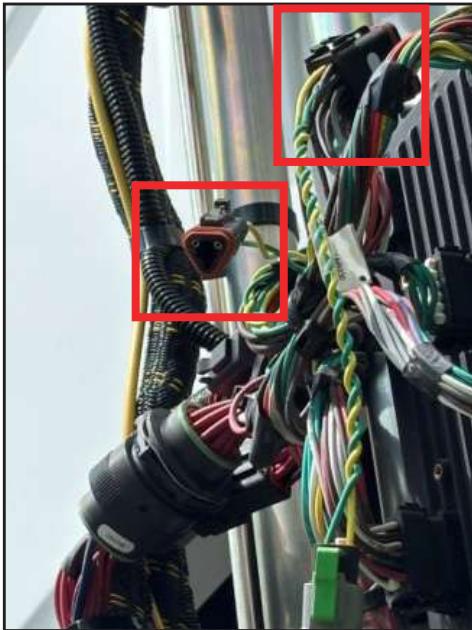

Figure 4
9. Insert the two wires from PN 1449230 into the MCB connector (Figure 4).
10. Insert the wires from PN 1673284 into the Deutsch 3-socket plug (Figure 4).
11. Reinsert MCB in B socket in 5-port module (Figure 4).